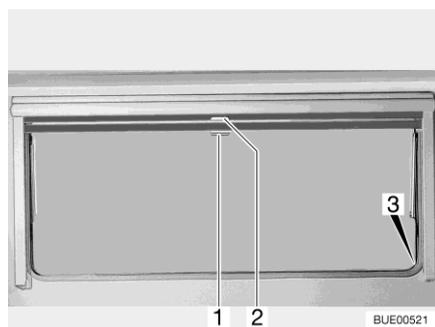

Fig. 101 Hinged window
- Pull blind at the handle (Fig. 101,2) downwards. If the blind is to be completely closed, it is suspended into the locking devices (Fig. 101,3) situated on both sides of the window frame.
- If the blind is completely closed: Press handle (Fig. 101,2) downwards and, at the same time, tilt it slightly inward. The blind can be taken out of the locking devices situated on both sides of the window frame.
- If the blind is in an intermediate position: Pull the handle (Fig. 101,2) slightly downwards until the locking device releases.
- Pull insect screen at the handle (Fig. 101,1) down and hang it into the locking devices (Fig. 101,3) situated on both sides of the window frame.
- Press handle (Fig. 101,1) downwards and, at the same time, tilt it slightly inward. The insect screen can be taken out of the locking devices situated on both sides of the window frame.